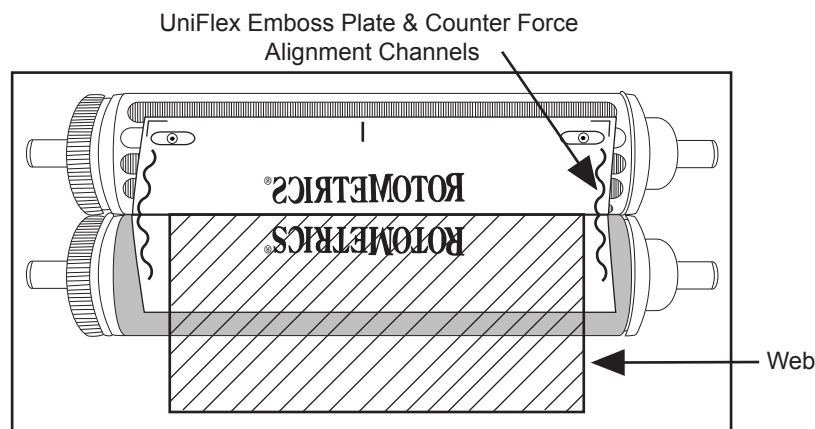

Fig. 3
11. Jog both cylinders so the leading edge of the UniFlex Counter Force enters the nip and the Duplofol tape on the back of the UniFlex Counter Force starts to adhere to the counter force anvil. Continue feeding the rest of the UniFlex Counter Force into the nip until the entire UniFlex Counter has been securely adhered to the counter force anvil. Note: This process should be done slowly and accurately to ensure a secure mounted UniFlex Counter Force (Fig 3).